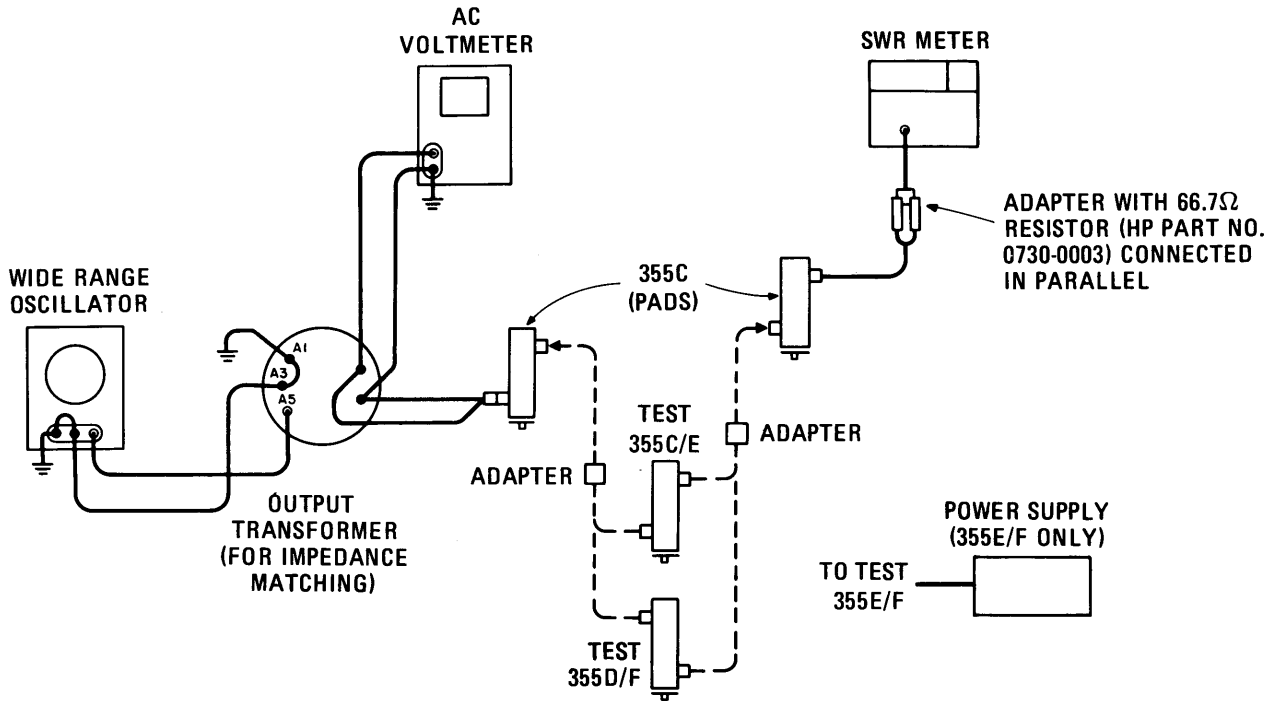

Figure 8. RF Attenuation at 1 kHz Test Setup
1. Connect equipment as shown in Figure 8. Set 355C pads to 6 dB each.